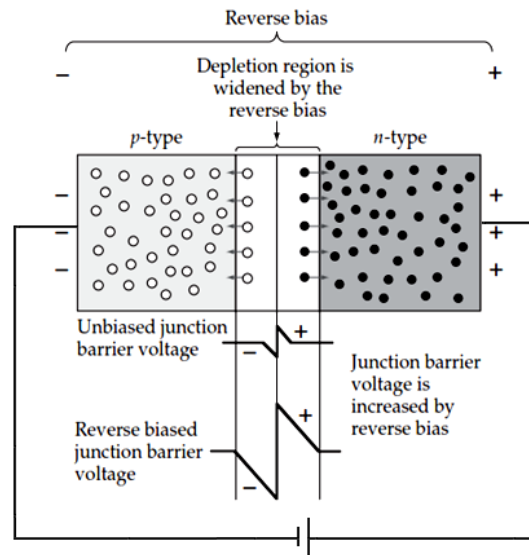

Fig.1.4: pn junction under Reverse bias
1. When **positive terminal connected to *n-type*** and **negative terminal to *p-type***, the electrons from ***n-type*** are attracted to the +ve terminal and holes from the ***p-type*** are attracted to the -ve terminal as shown in Fig.1.4.